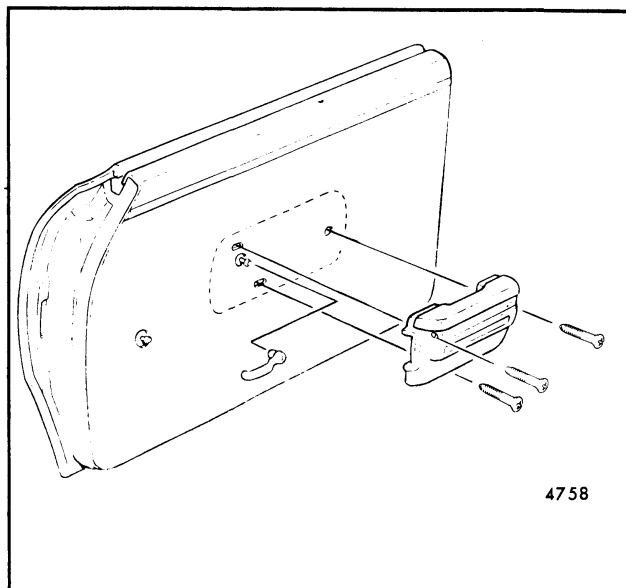

Fig. 5-4-Typical Door Arm Rest Applied After Trim Installation
There are two basic types of door arm rests: those applied after door trim installation and those which are an integral part of the door trim assembly. For removal of the first type arm rests, refer to Figure 5-4.
7. On styles with integral arm rest, remove screws inserted through pull cup into arm rest hanger support. On styles with arm rest applied after door trim installation (Fig. 5-4), remove arm rest to door inner panel attaching screws.